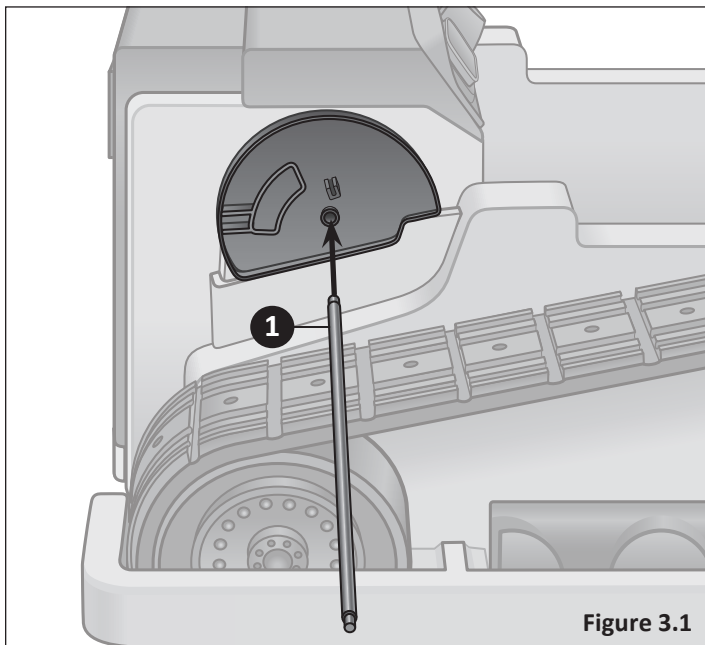

Figure 3.1
- 1 Insert the blade arm axle through the hole in the blade arm inset. Once the blade arm axle is inserted, be sure the blade arm axle has equal lengths extended on both sides of the bulldozer body. **Figure 3.1**